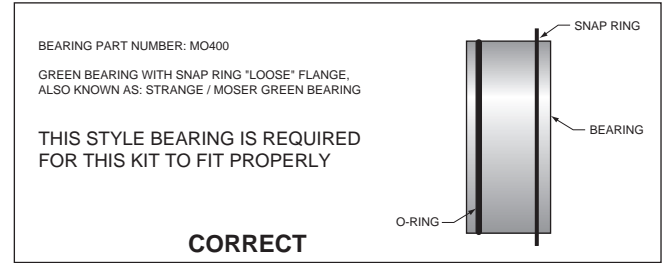
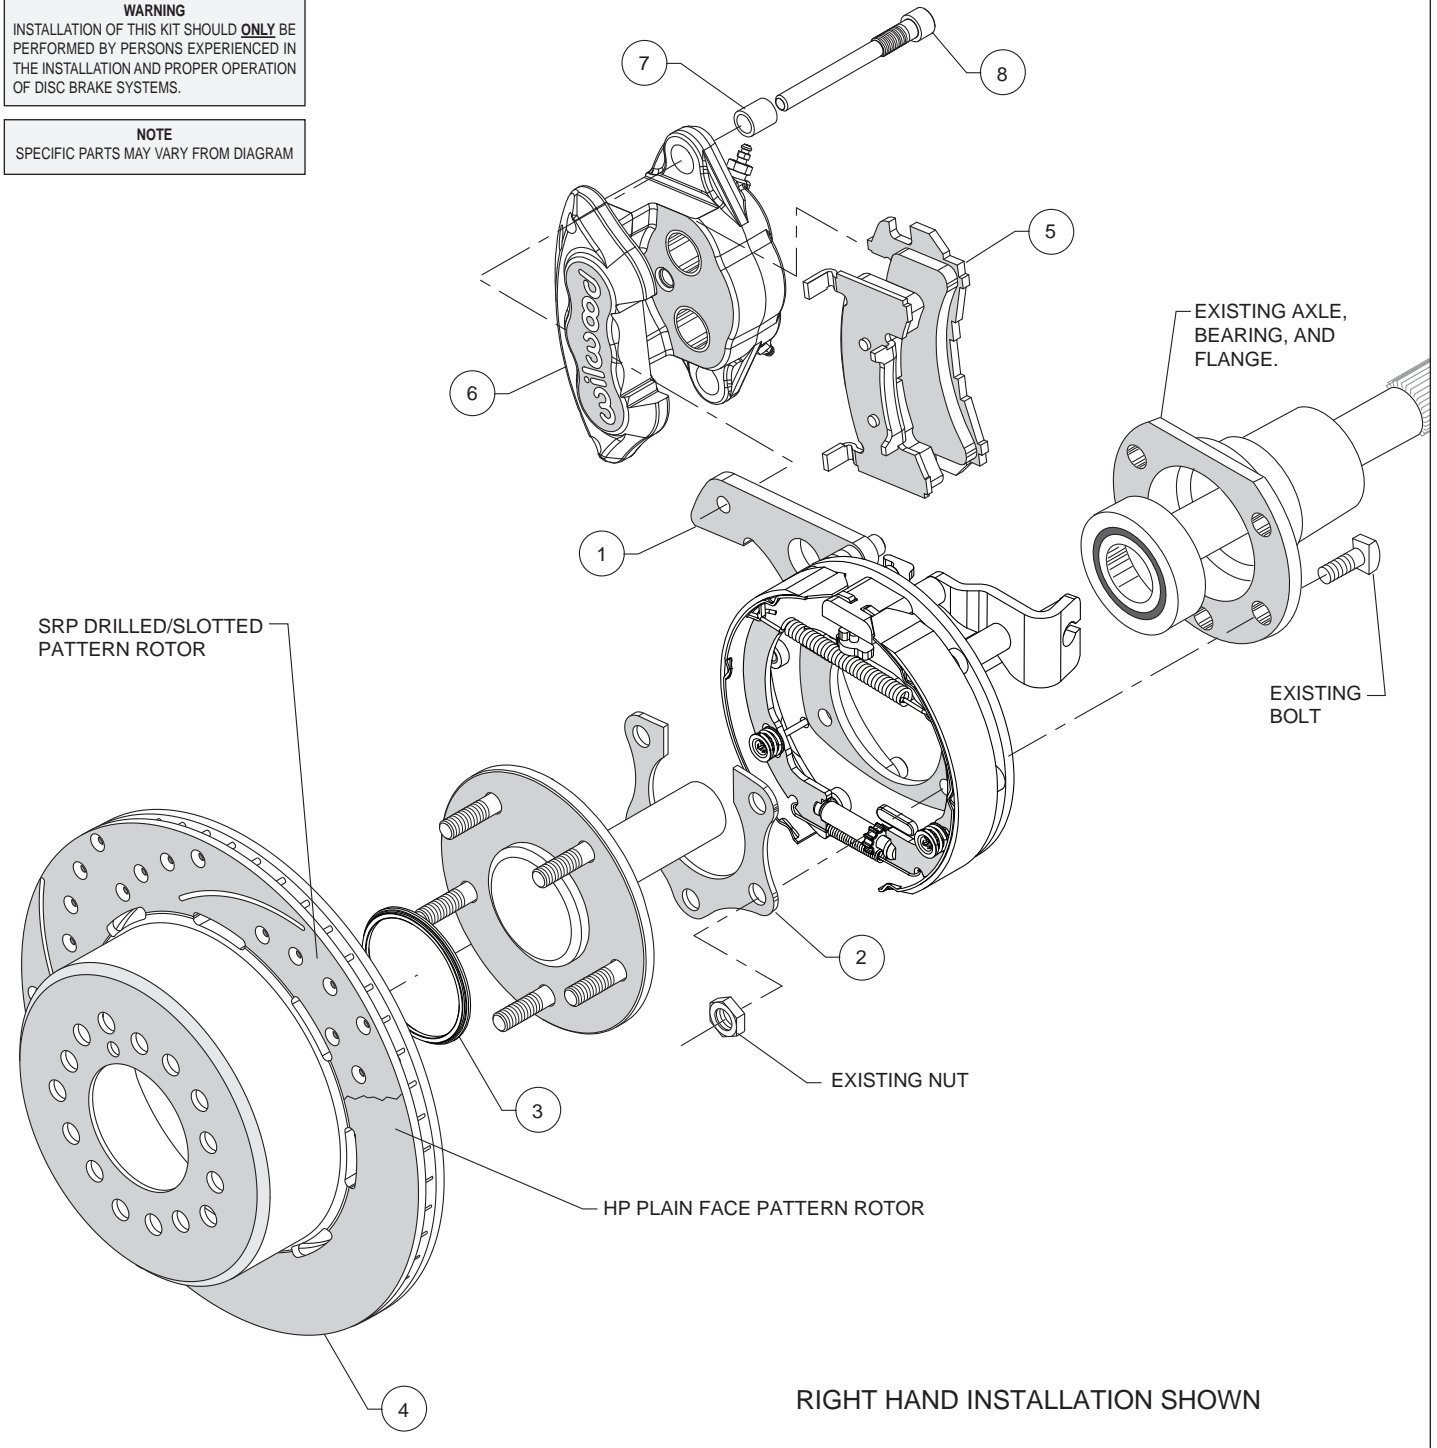

Figure 2. Loose Fit Bearing Configuration
Figure 3. Typical Installation Configuration
**Assembly Instructions** (numbers in parenthesis refer to the parts list, and Figure 3 on the preceding pages): **CAUTION:** All mounting bolts must fully engage threaded holes.
- Determine that the appropriate snap ring style green bearing has been installed on the axle, as shown in Figure 2. Temporarily remove snap ring from bearing. Orient the bracket assembly (1) as shown in Figure 3 and Photo 1 and slide it onto the axle and over the bearing. Reinstall snap ring on bearing. Insert the axle and bracket into the axle housing. Ensure that the bracket assembly backing plate fits flush against the axle housing flange.
- Install the bearing retainer (2) with the opening pointing upward and the bearing relief step facing inward (toward the bearing), as shown in Figures 3 and 6. Secure retainer and bracket assembly to the axle housing flange using the Original Equipment Manufacturer (OEM) bolts and nuts, Figure 3. Apply red *Loctite*® 271 to the OEM bolt threads and torque to OEM specifications.
- Slide the rotor registration adapter (3) onto the axle register on the axle flange with the smaller O.D. facing toward the rotor/hat (4), Photo 2. Align the correct hole pattern in the rotor/hat with the stud pattern on the axle flange and slide into place, Figure 3 and Photo 3. **NOTE:** The rotor/hat must fit flush against the axle flange or excessive rotor run out may result. Install three lug nuts (finger tight) to keep the rotor/hat assembly in place while continuing with the installation. **NOTE:** Some OEM and after market axles come with stud sizes larger than 0.50" diameter. Verify stud size and have a qualified machine shop drill the bolt circle of the hat/rotor to the correct stud size, if necessary.
- Install the disc brake pads (5) into the caliper (6) with the friction material facing the rotor, as shown in Figure 3 and Photo 4.
- Install sleeves (7) onto slide pin bolts (8). Apply white lithium grease (available from your local auto parts store) to the slide pins/sleeves, as shown in Photo 5. **Do not apply to threads.** Mount the caliper (6) onto the mounting bracket (1) using slide pin bolts, as shown in Figure 3. Torque to 35 ft-lbs.